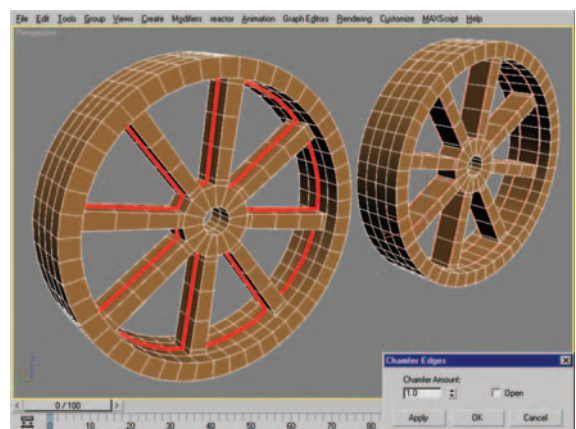

Figure 8.103 Edge selection before and after using Chamfer.
13. Select the edges seen in Figure 8.103 (left) and use Chamfer with a Chamfer value of 1 to create the result seen in Figure 8.103 (right). One line of edges is now two lines that are placed closer to the front and back of the mesh.